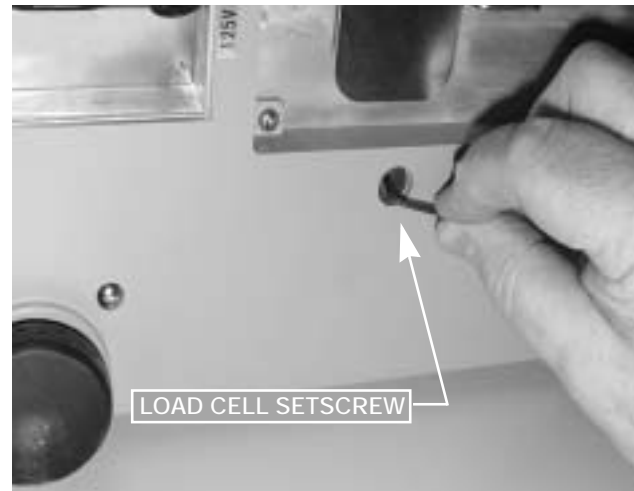

Figure 2-2. Setscrew Removal
2. Remove load cell setscrew (see Figure 2-2) using the 2 mm hex wrench provided with scale.